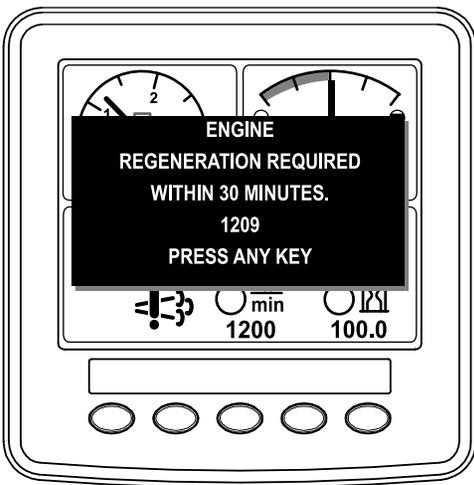

Figure 65
- If you ignore the request for a parked regeneration (displayed in the InfoCenter) and continue to operate the machine (Figure 65), a critical amount of soot may accumulate in the DPF.